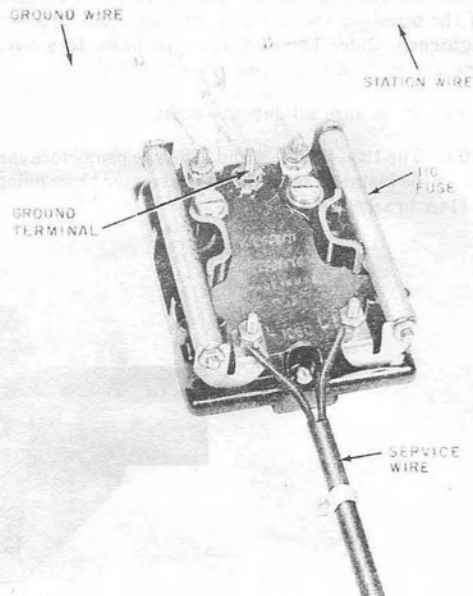
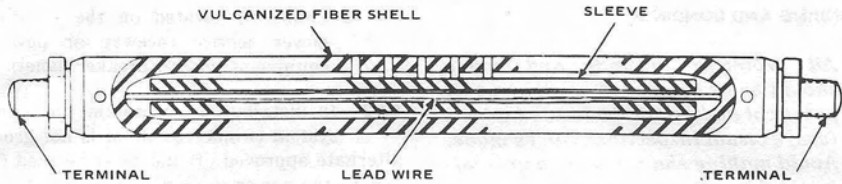

Fig. 29—106C Protector
Fig. 30—11-Type Station Line Fuse
5.01 The 106C protector (Fig. 29) has five binding posts, two 2B2A protector units, and two 11C fuses (Fig. 30).